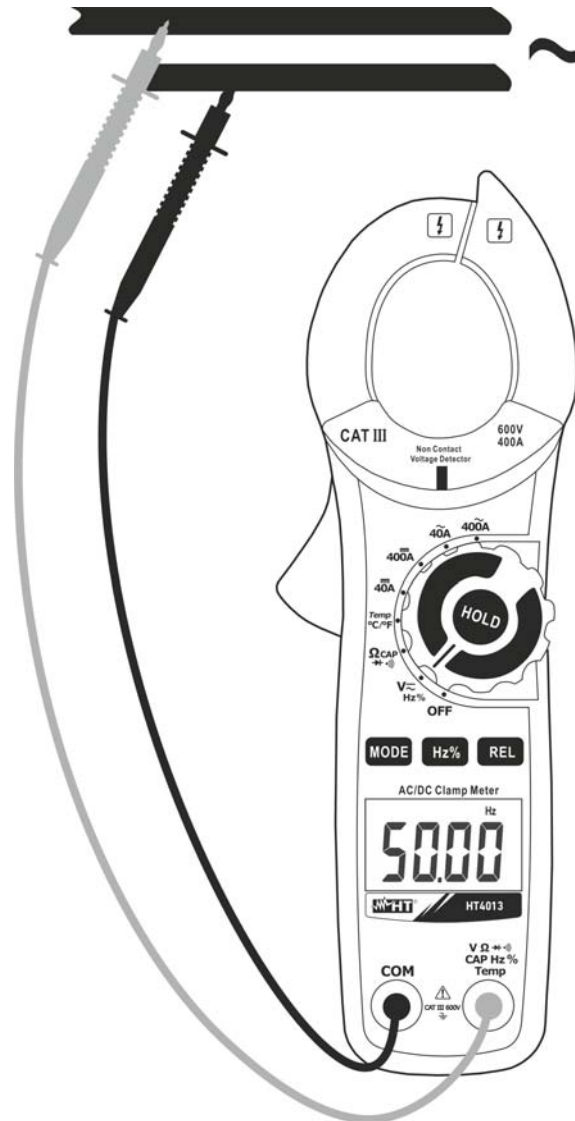

Fig. 4: Use of the clamp for frequency measurement and duty cycle
3. Insert the red cable into input terminal **VΩ▶▶CAPHz%Temp** and the black cable into input terminal **COM** (Fig. 4) for measuring frequency with leads. The value of frequency (Hz) or of duty cycle (%) is shown on the display.